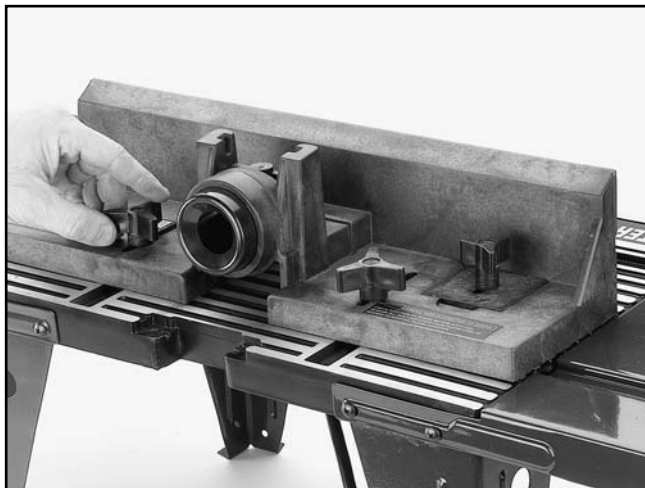

Figure 14. Securing the fence to the main table.
7. Secure the fence assembly to the table with the supplied M8-1.0 x 40 hex bolts and the M8-1.0 threaded knobs as shown in **Figure 14**.